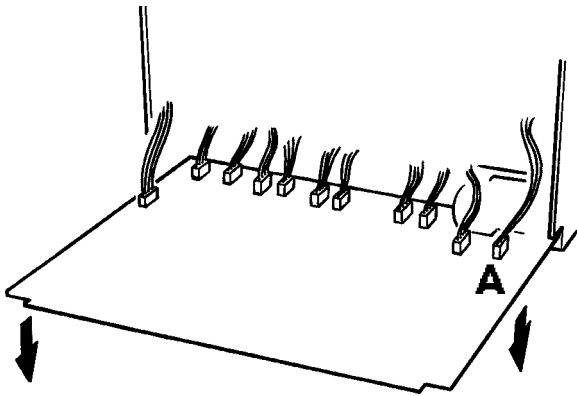

Fig6a Connector removal (Continuous-trace recorders)
7. Turn the recorder the right way up again and remove all remaining connectors from the control board as shown in figures 6a/6b. Note connector A in the figures.
- Before mechanically fixing the new control board to the recorder chassis, reconnect all the connectors (except connector A in figures 6a/b) (See note below).